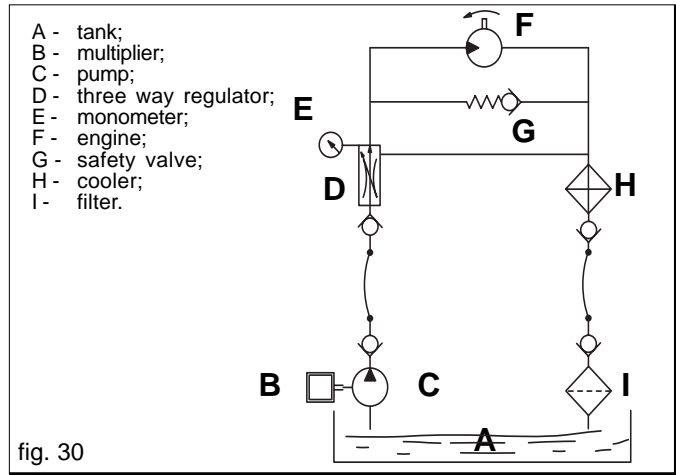

fig. 30
- Oil supply: follow the data in the table in Fig. 30.